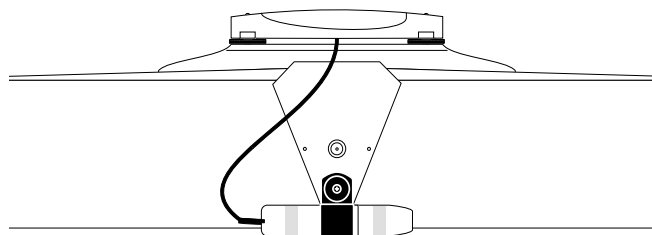

Figure 2.
- Install the jack as shown in Figure 2. If the instrument has a metal tailpiece, attach the supplied ground wire to it. If the instrument has a wooden tailpiece, attach the ground wire to the ball ends of the strings.